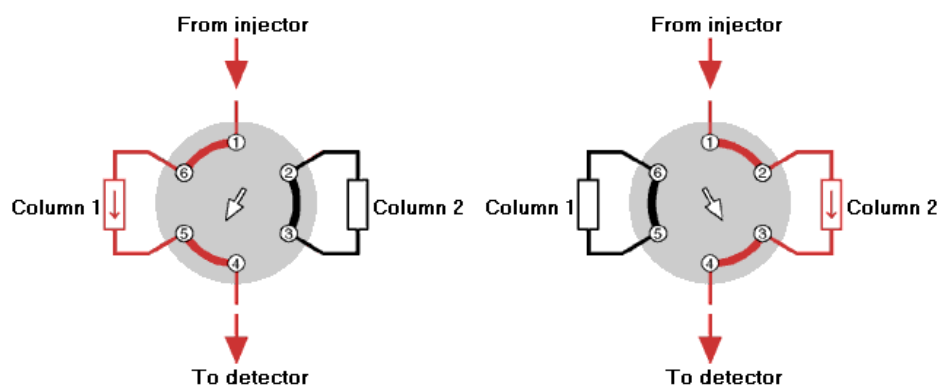
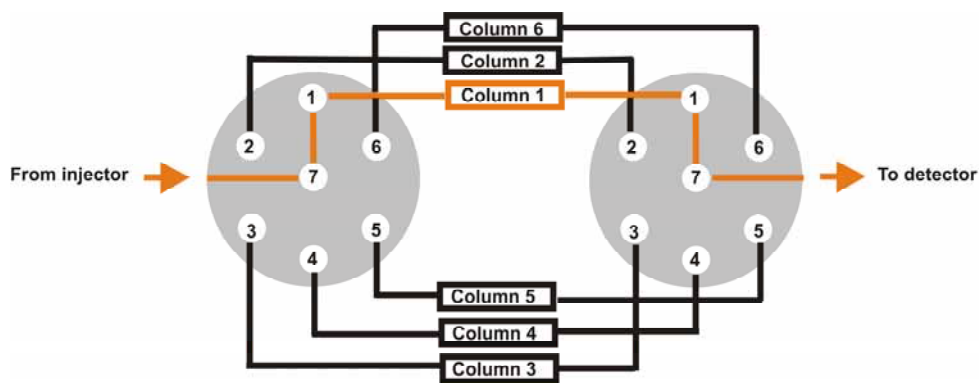

Fig. 2: Typical example for column switching with a 2-position, 6-port column switching valve
Fig. 4: Example for 6 columns on a 6-position, 7-port column switching valve
- The TCC with 2-position, 6-port switching valves is the appropriate choice for applications, such as matrix separation or concentration of components (→ Fig. 2, page 13).
The TCC with 6-position, 7-port switching valves allows connecting up to six different columns, and thus is the appropriate choice, for example, for method development (→ Fig. 4, page 14).
Fig. 2 through Fig. 4 show example flow schematics for the three valve models.
- Fig. 2 shows a typical flow schematics for a 2-position, 6-port valve when it is connected for an application that requires two different columns at frequent intervals at similar temperatures.
- Fig. 4 shows a flow schematics for two 6-position, 7-port valves when they are connected for an application with several columns, for example, for method development.